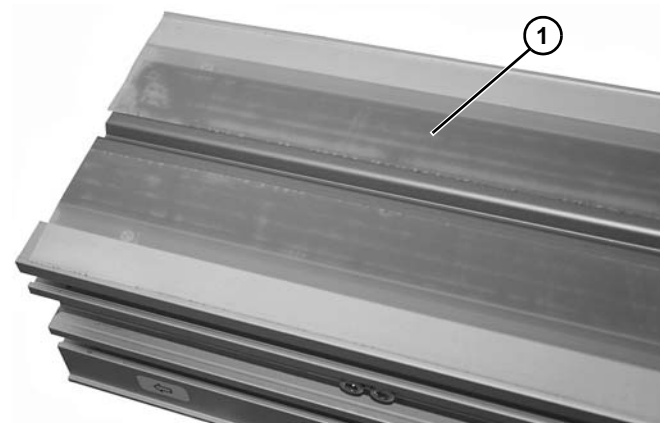

Figure 48
5. Install new wear strip (Figure 48, item 1).